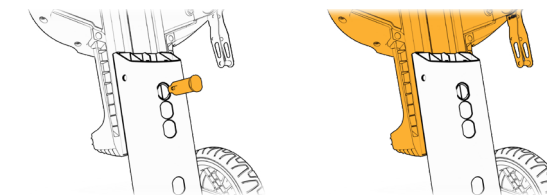

Figure 25 Seat height adjustment holes
in one of the three adjustment holes). Please keep holding the seat in its place! Remove the pin while holding the seat with your other hand (see Figure 25, Step 3).
4. Now you can adjust the seat height to any of the four holes and reinsert the pin to hold it in place (see Figure 25, Step 4).